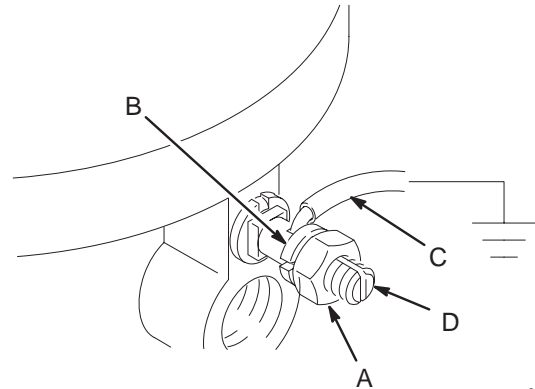

Fig. 1 0720
Loosen grounding lug locknut [Fig. 1 item (A)] and washer (B). Insert one end of a 12 ga (1.5 mm²) minimum ground wire (C) into slot in lug (D) and tighten locknut securely. Connect other end of wire to true earth ground. To order a ground wire and clamp, order part number 222011.